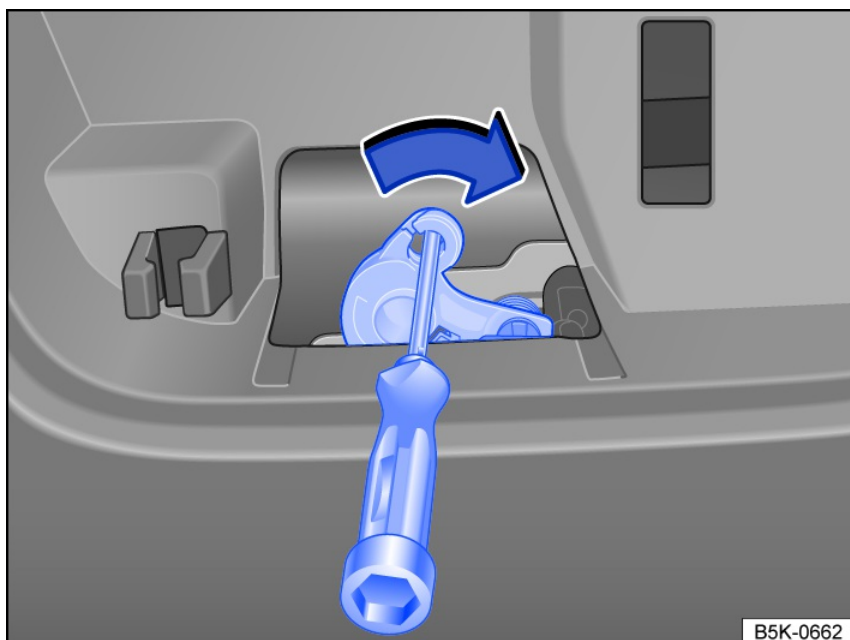

Fig. 67 In the trunk lid: emergency release for the trunk lid.
- Place a suitable object in the opening for the release lever and press in the direction of the arrow fig. 67 to release the trunk lid.